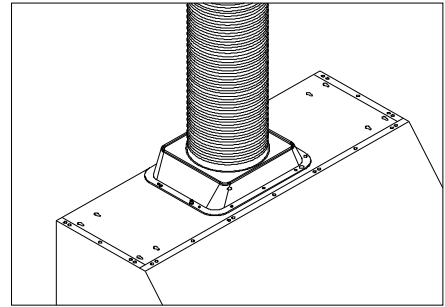

Figure 5
7. Use 8" aluminum or steel pipe (follow building codes in your area) to connect the ducting transition on the hood to the ductwork above. Use duct tape to seal and secure joints as shown in Figure 5.